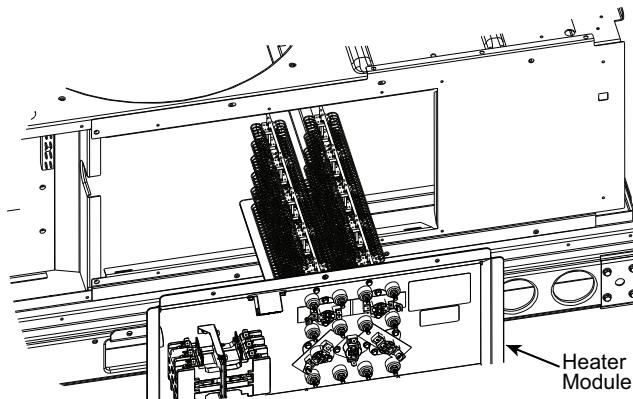

Fig. 13 — Typical Electric Heat Installation
- Identify heater cover to remove. (See Fig. 13.) Remove heater cover and save cover and screws.